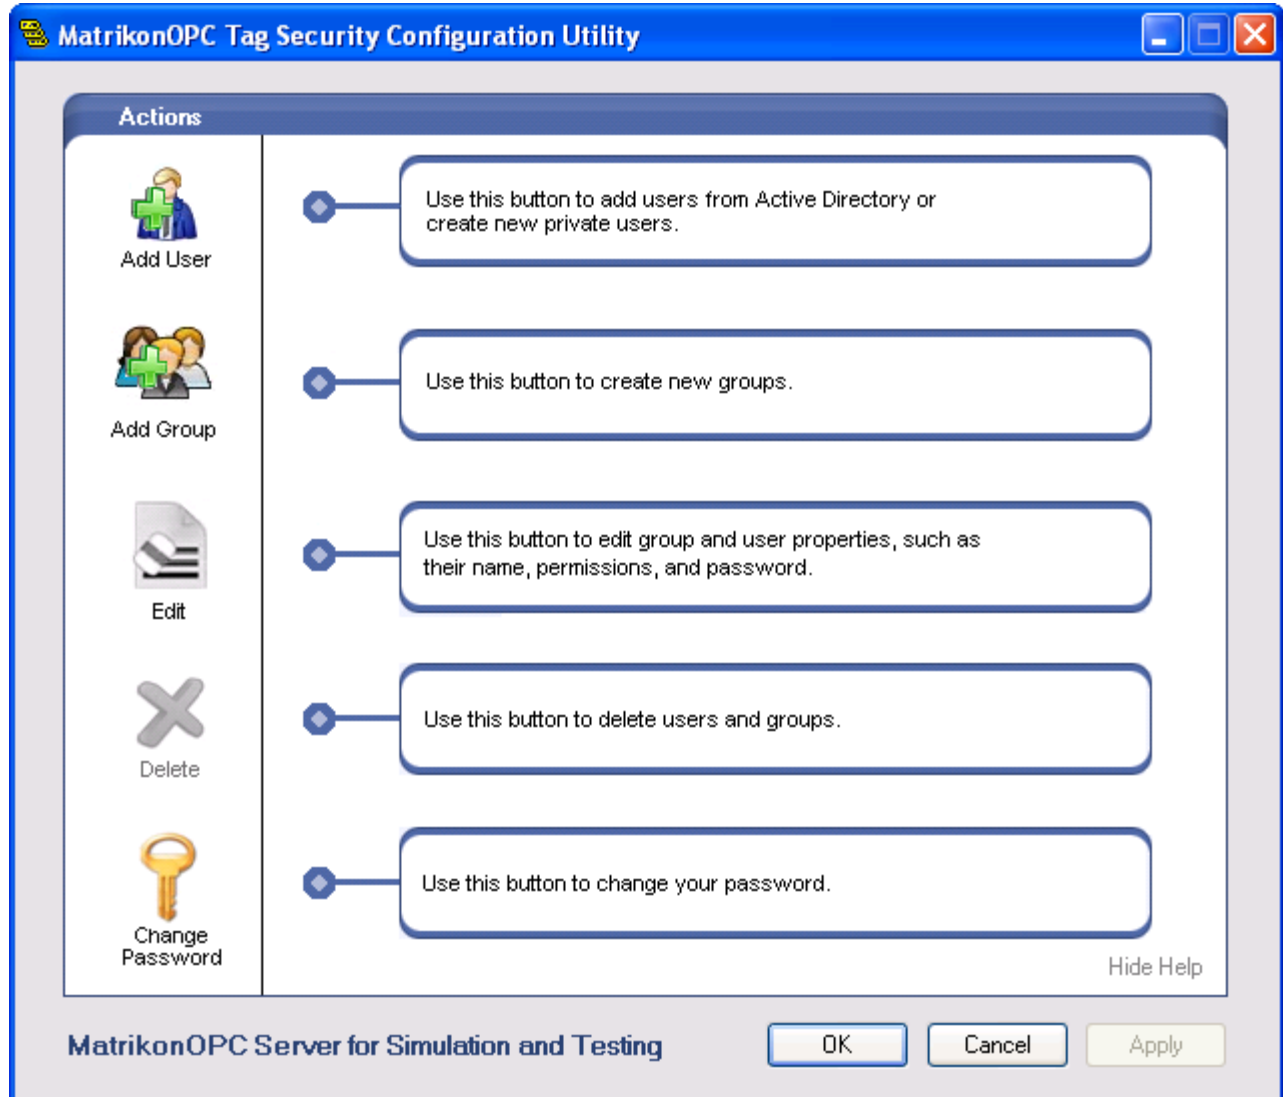

Figure 68 - MatrikonOPC Tag Security Configuration Utility Main Screen
4. The **MatrikonOPC Tag Security Configuration Utility** screen (Figure 68) appears.
The **MatrikonOPC Tag Security Configuration Utility** screen displays the name of the OPC server that is being configured for tag security. In Figure 68 above, the **Utility** screen shows that the **MatrikonOPC Server for Simulation and Testing** tag security is being configured.